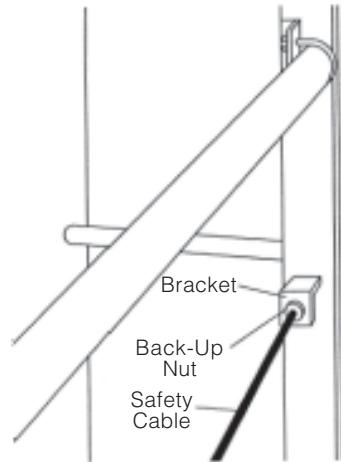

Figure 3-28. Attach Bolted End of Safety Cable
11. Using a 3/8-inch stainless-steel back-up nut, install safety cable along service side of chamber by attaching bolted end of the cable to bracket located along service side, on opposite end from main control panel (see Figure 3-28).